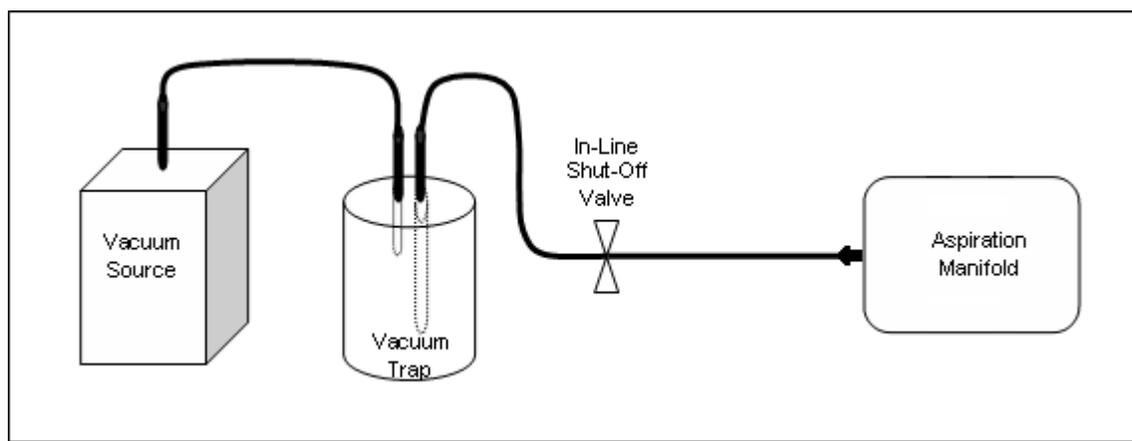

Figure 2. Manifold setup: Connection to Vacuum Source.
Attaching Vacuum Source (Figure 2)
1. Attach one end of a vacuum hose to the nozzle Outlet Fitting (4) on the Manifold (Figure 3) and other end to a shut-off valve connected to a vacuum source (Figure 2). It is recommended that a vacuum trap be placed between Manifold and vacuum source.